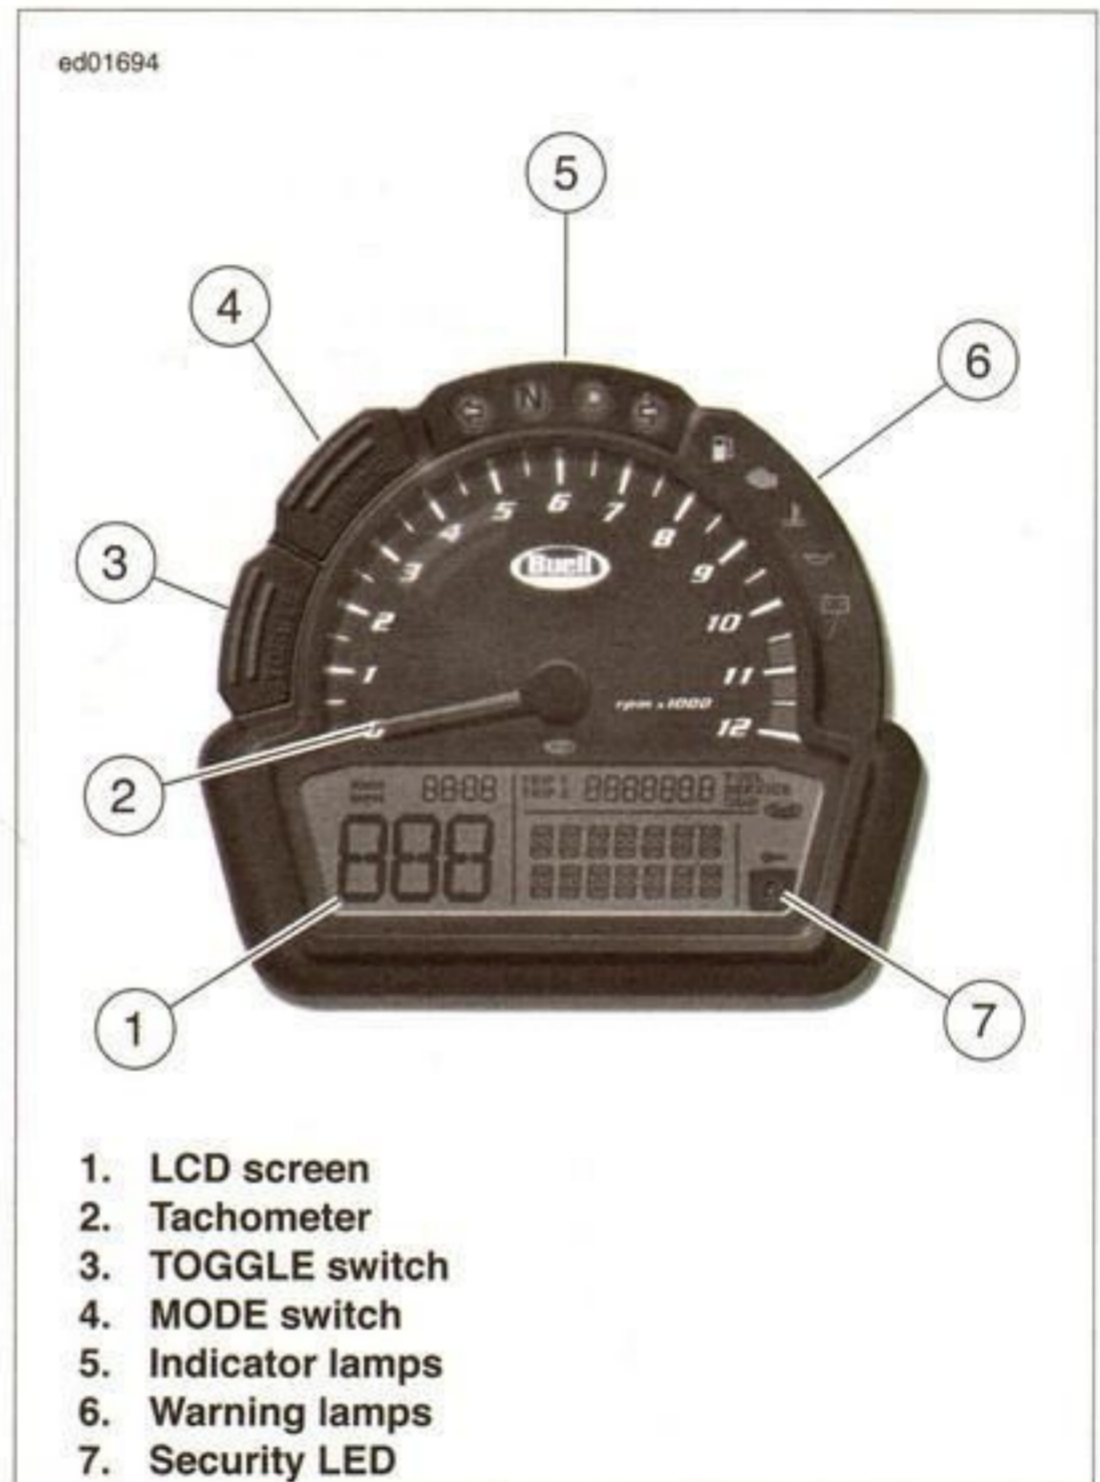

Figure 2-1. Instrument Cluster
- See Figure 2-1. The Instrument Cluster (IC) to view the DTCs.